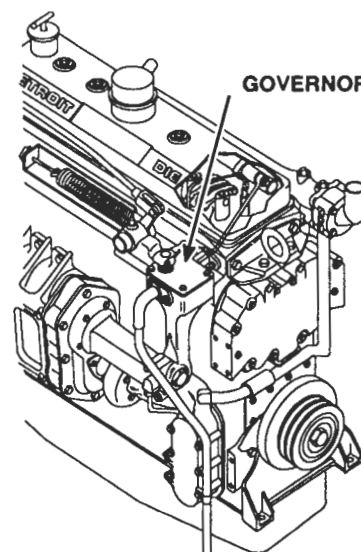

Figure 2. Variable Speed Governor Mounting
1. Disconnect the throttle control rod (Figure 2.) and booster spring from the speed control lever.